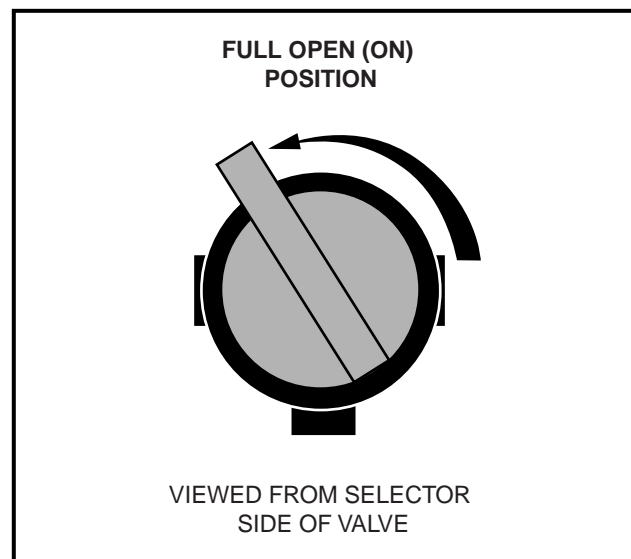
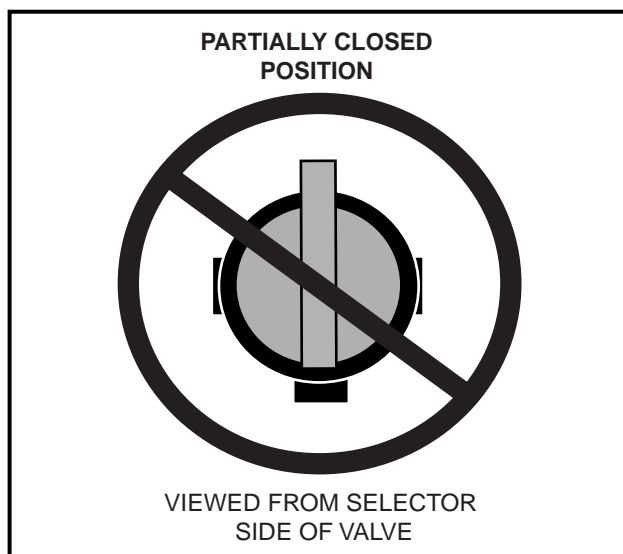

Figure 14-21 Open Fuel Shut-off Valve
Figure 14-22 Incorrect Fuel Shut-off Valve
5. Turn the fuel shut-off valve on top of the gas tank to the open position (**Figure 14-21, Page 14-27 and Figure 14-22, Page 14-27**).
11. Check to be sure the fuel shut-off valve on top of the gas tank is in the open (ON) position (**Figure 14-21, Page 14-27 and Figure 14-22, Page 14-27**).
The valve's open position differs from standard valve configurations. For the valve to be fully open, it must be turned approximately 120° from the closed (OFF) position (until it cannot be turned any further) (**Figure 14-21, Page 14-27**). If the valve becomes partially closed (**Figure 14-22, Page 14-27**), the engine will not run properly due to fuel starvation.